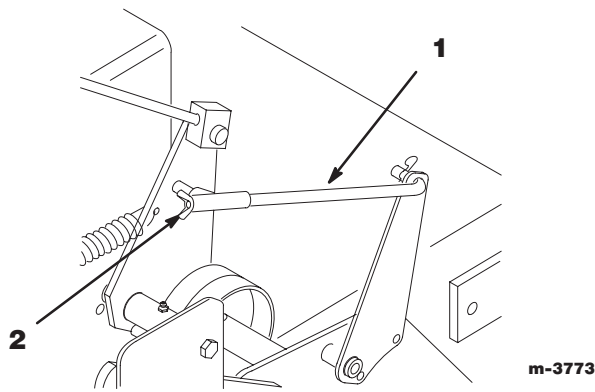

Figure 43
3. To adjust brake set the parking brake latch, and rotate the wing nuts on the brake rods (Fig. 43). Clockwise to tighten the brake and counterclockwise to loosen the brake.